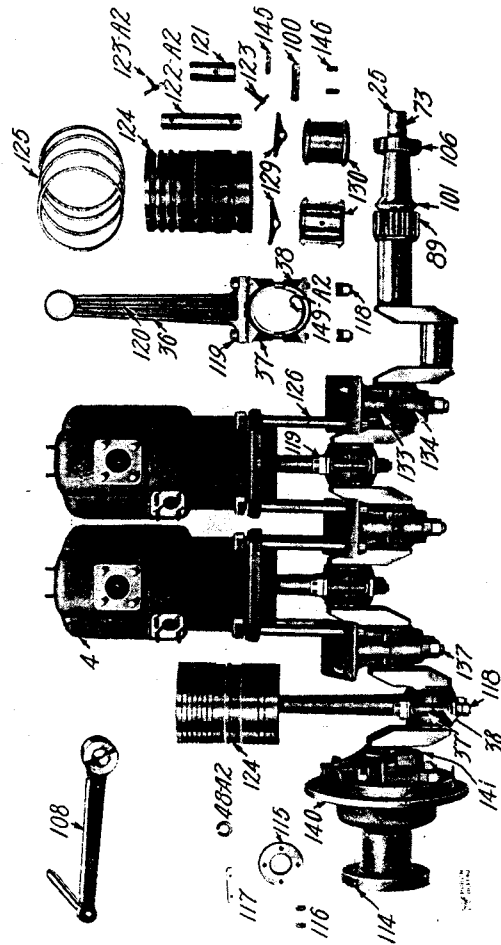

Fig. 56.
51. Cylinders, pistons, crank shaft, connecting rods, bearings, etc. (See Figs. 56 and 57.)